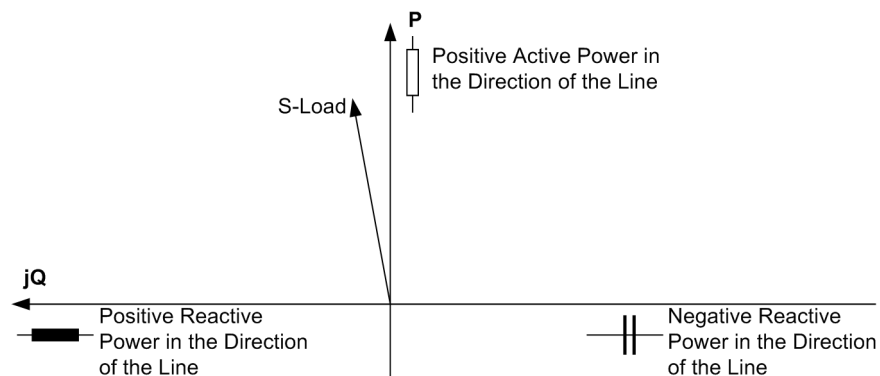

Figure 3-28 Apparent load power
- With the aid of the measured power values you are able to verify that they correlate to the load direction, reading either at the device itself or in DIGSI® (Figure 3-28).